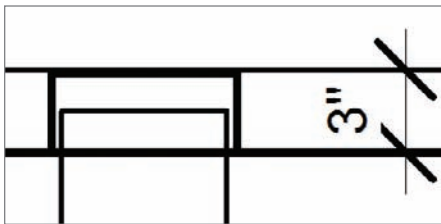

FIGURE 12.67 Offsetting the thick lines
10. Trim the bottoms of the thick, vertical lines to the 3” horizontal line, as shown in Figure 12.67.